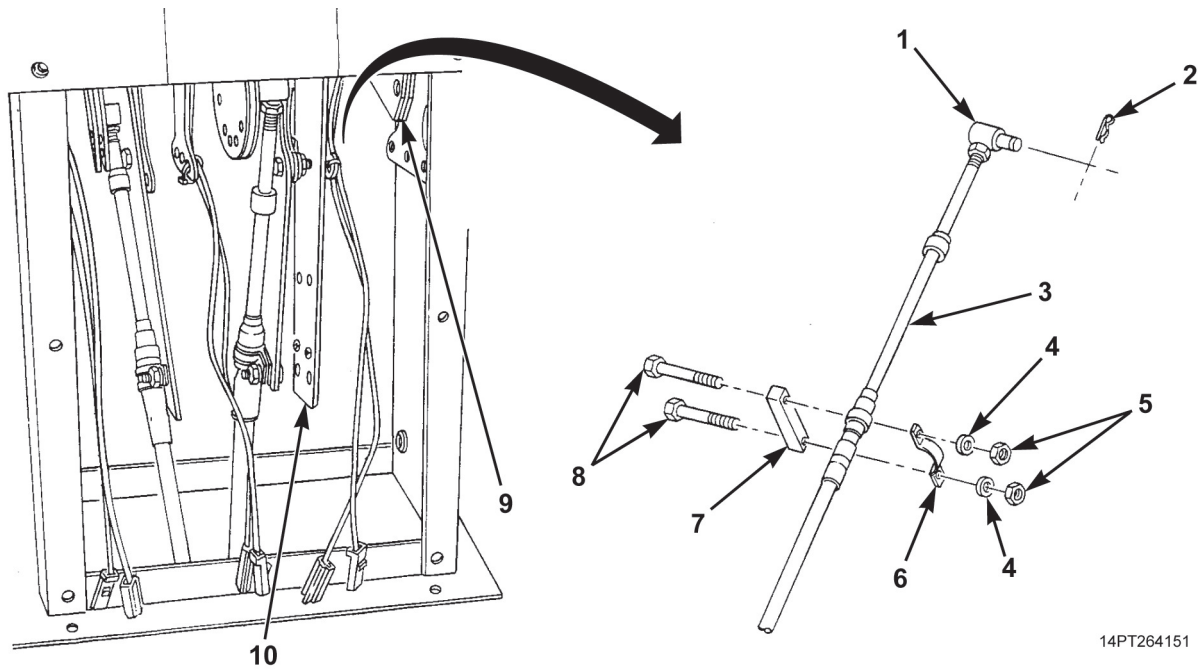

Figure 5. Hydraulic Control Cable and Components Removal.
14. Tag hydraulic control cable (Figure 5, Item 3).
15. Remove two nuts (Figure 5, Item 5), washers (Figure 5, Item 4), screws (Figure 5, Item 8), clamp (Figure 5, Item 6), and spacer (Figure 5, Item 7) from bracket (Figure 5, Item 10).
16. Remove retaining pin (Figure 5, Item 2) from pivot pin (Figure 5, Item 1) and pivot pin from bracket (Figure 5, Item 9).